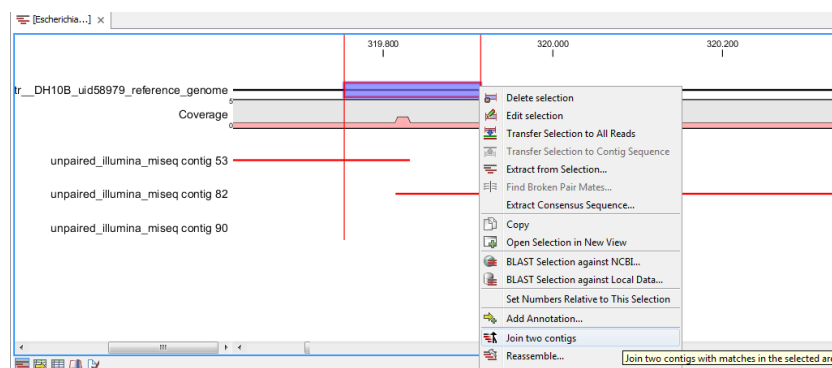

Figure 3.8: Match view - Join Contigs wizard
- It is also possible to join two contigs from the Contig match view by selecting a region in the reference sequence where two contigs overlap and right click that selection. Select **Join Two Contigs** from the drop down menu and specify the contigs to be joined in the dialog window (figure 3.8). The wizard lists all contig matches in the selected region and the contigs to use in the join are selected by selecting the corresponding matches.